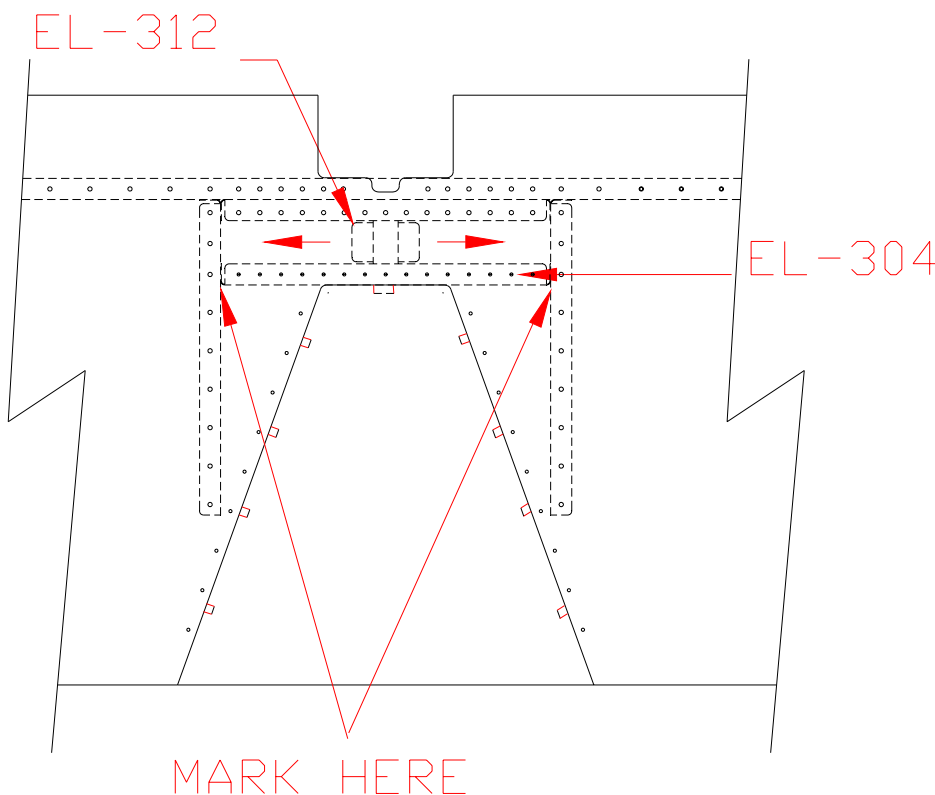

Figure 3.4.5
- 4) Mark the center of the top and bottom flanges of the second Elevator Center Doubler. Cleco the two EL-312 Stiffener Ribs to the Elevator Spar. Figure 3.4.5.
- 5) Cleco the second Elevator Center Doubler to the Stiffener Ribs. Mark the Elevator Center Doubler location onto the two center ribs. Figure 3.4.5. **NOTE:** Lower the Top Skin onto the center section to make sure the center line drawn on the EL-304 is visible through the pre-punched holes in the skin.